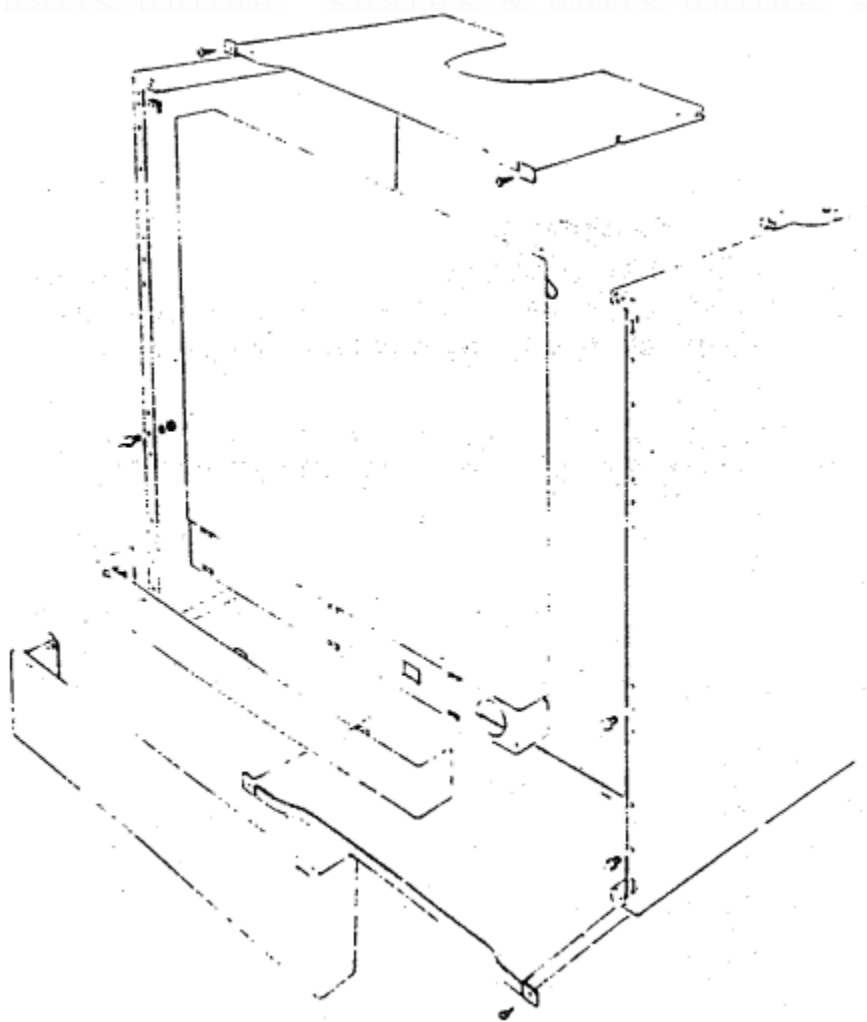

Fig. 8a. Outer Case Assembly
22. Assemble the outer case in the following manner: (Fig. 8a).